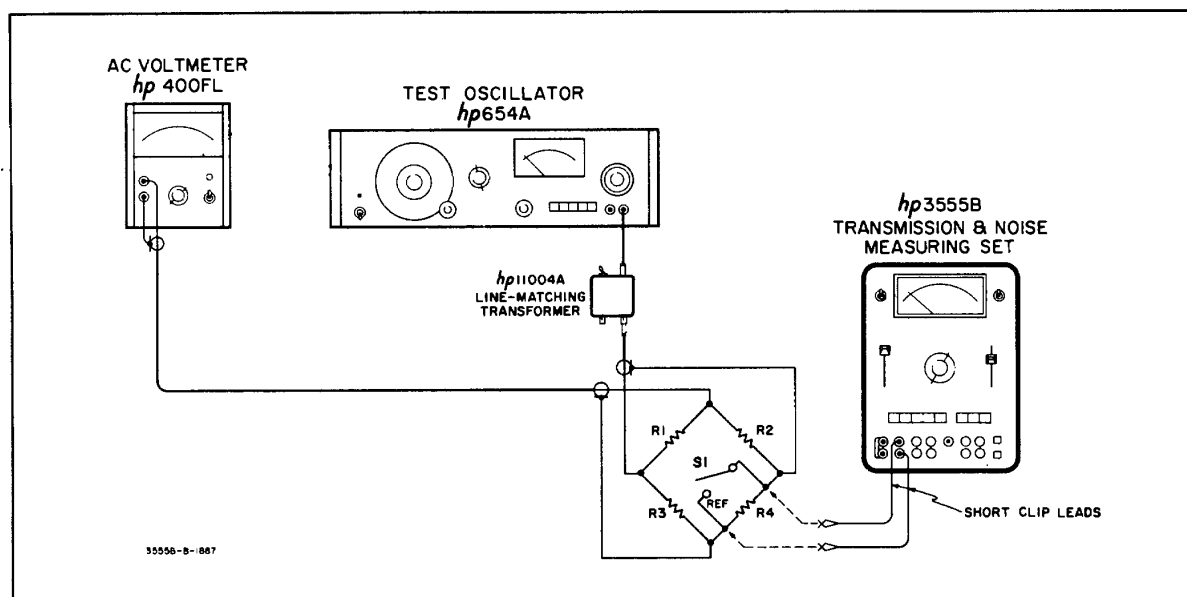

Figure 5-4. Return Loss Test Set-Up
- a. To make a return loss check it will first be necessary to construct a balanced bridge utilizing 0.1% resistors for each of the four 3555B impedances. Figure 5-4 shows the equipment test set-up to be used. For this check to be meaningful, all test leads should be kept short. The leads connecting the 3555B to the bridge should be short clip leads and should be kept away from each other and from other leads. Keep all the instruments away from other instruments that may be referenced to earth ground.
- b. Connect the equipment as shown in Figure 5-4 and set the 3555B controls as follows:
- c. Set the 654A frequency to 1kHz. Temporarily close S1 in Figure 5-4 and adjust the 654A output level for an up scale indication on the 400FL AC Voltmeter.
- e. Unplug or disconnect R4 in Figure 5-4 and connect the 3555B tip and ring in its place. Be sure to use short clip leads.
- f. Momentarily close S1 and recheck the reference on the 400FL. Open S1 in Figure 5-4 and down range the 400FL for an on-scale indication. This indication must be down at least 30dB from the reference.
- i. Change the bridge resistors in Figure 5-4 to 900 ohms f 0.1% (use 300 ohms + 0.1% in series with 600 ohms $\pm 0.1\%$) and change the 3555B FUNCTION to VF/Nm 900 BAL. Be sure to reset the reference level after the resistors are changed. Check the return loss between 50 Hz and 20 kHz. The return loss must be better than 30 dB.
- j. Change the bridge resistors in Figure 5-4 to 135 ohms +0.1% and change the 3555B FUNCTION to 135 BAL. Check the return loss between 1kHz and 600kHz. The return loss must be better than 26dB down from the reference.
k. Change the 3555B input connection to the 75 UNBAL jack. Change the resistors in Figure 5-4 to 75 ohms +0.1% and change the 3555B FUNCTION to CARRIER 75 UNBAL.